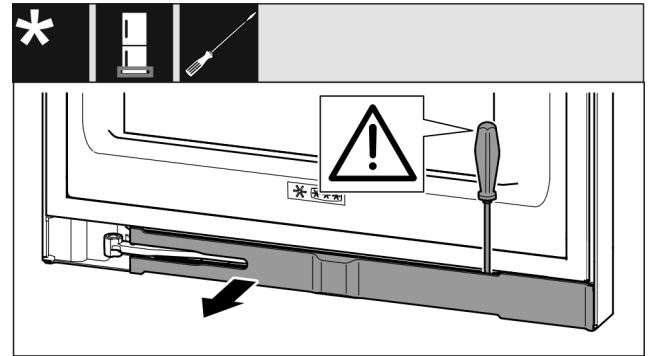

Fig. 12
- ▶ Use a slotted screwdriver to snap out the faceplate and swivel it to the side. (see Fig. 12)